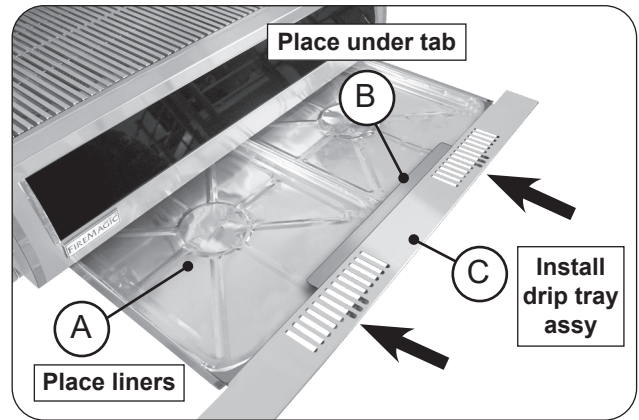

Fig. 30-1 Install drip tray
- Place the liners (Fig. 30-1, A) underneath the tab at the front portion of the drip tray (Fig. 30-1, B)
2. Fully insert the drip tray with liners into the bottom front opening of the electric grill (Fig. 30-1, C).